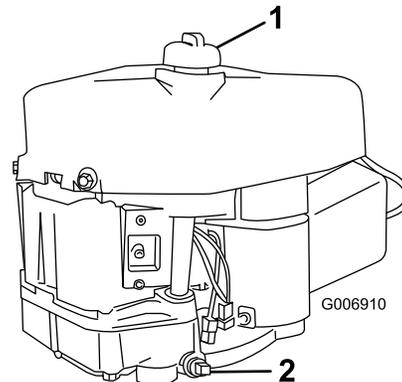

Figure 27
6. Clean around the oil dipstick (Figure 27) so that dirt cannot fall into the fill hole and damage the engine.
- Place a drain pan below the oil drain plug and remove it (Figure 27).
- Slowly pour approximately 80% of the specified amount of oil into the fill hole (Figure 27). Check the oil level; refer to 4 and 5 of Checking the Oil Level.
- Slowly pour about 80% of the specified amount of oil into the fill hole (Figure 27). Check the oil level; refer to 7 and 8 of Checking the Oil Level.